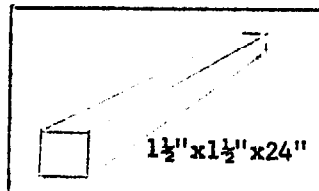

Fig. 4 - Box for Box Test.
- (1) Take a handful of dry, screened earth and moisten it until it is damp enough to form a ball when squeezed in the hand, but not so damp that it will leave more than a slight trace of water on the palm.
- (2) Drop the ball from a height of about three feet onto hard ground. If the ball breaks into a few smaller pieces, the packing quality is good to fair. If it disintegrates, the quality is poor.
18. Box Test The Box Test is a guide to the proper soil-cement ratio. It measures the shrinkage of soil which contains no stabilizer. The box should have these inside measurements: 24 inches X  $1\frac{1}{2}$  inches X  $1\frac{1}{2}$ " (see Fig. 4).